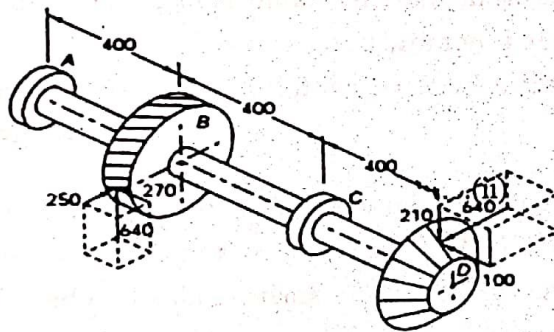

Fig. 12. (b)
- b) A transmission shaft supporting a helical gear B and an overhang bevel gear D is shown in figure 12. b. The shaft is mounted on two bearings A and C. The pitch circle diameter of the helical gear is 450 mm and the diameter of the bevel gear at the forces is 450 mm. Power is transmitted from the helical gear to the bevel gear. The gears are keyed to the shaft. The material of the shaft is steel 45C8 ( $S_{ut} = 600$  and  $S_{yt} = 380 \text{ N/mm}^2$ ). The factors  $k_b$  and  $k_t$  of ASME code are 2.0 and 1.5 respectively. Determine the shaft diameter using the ASME code. (13)